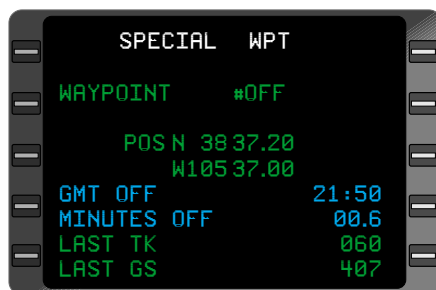

Figure 3-201
7. **MINUTES OFF, LAST TK, LAST GS** - VERIFY and RECORD for future use. (Figure 3-201).